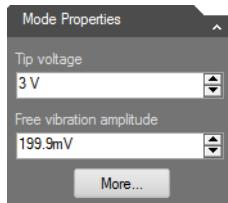

Figure 8-11: Adjusting Tip Voltage
- ① Approach the sample in Dynamic Force mode with a suitable cantilever.
- ② In the Mode Properties section of the Imaging window, set “Tip Voltage” to +3 V (see *Figure 8-11: Adjusting Tip Voltage*).
- ③ Adjust the phase on the Lock-in amplifier until the X-channel signal is maximally positive and the Y-channel signal is close to zero.
- ④ Return the “Tip Voltage” setting to 0 V.